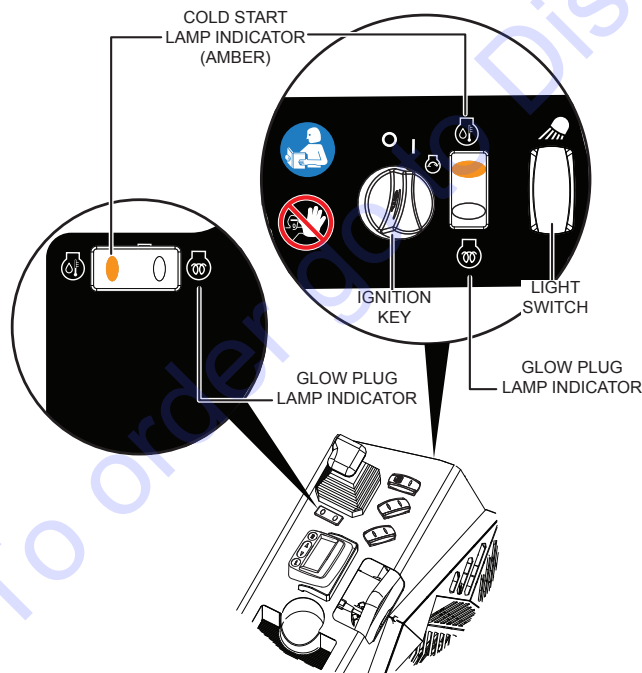

Figure 19. Cold Start Lamp Locations
- The cold start lamp indicator will remain on (**AMBER**) until the hydraulic oil reaches 100°F as shown in Figure 19 in the hydraulic system or at a 30-minute default time.